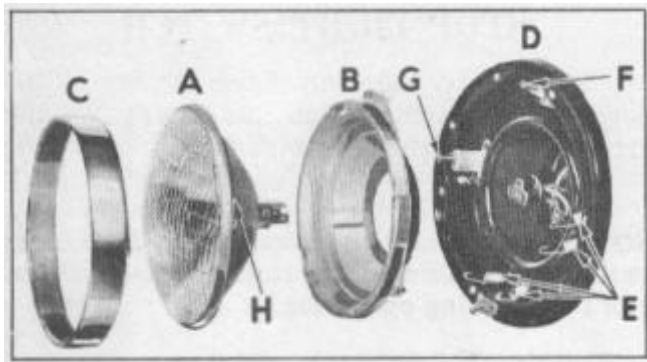
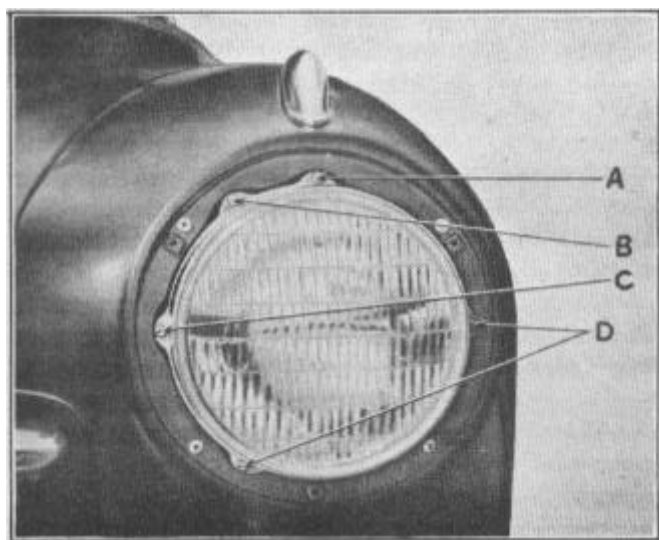

FIGURE 18
FIGURE 19
The Sealed Beam reflector unit (A) Figure 18 is held to a sub-body (B) by the retainer (C) and three screws. The sub-body (B) forms a ball and socket joint with the lamp housing (D) and is held to the housing by four coil springs (E) plus the vertical adjustment screw (F) and the horizontal adjustment screw (G).
2. Loosen, but do not remove, the three screws and (D), Figure 19, holding the retainer. Do not disturb the aiming screws (A) and (C) at the top and left side of the unit.
Move the light beam to the right or left by turning the horizontal adjustment screw (G) Figure 18. Raise or lower the beam by turning the vertical adjustment screw (F) Figure 19.